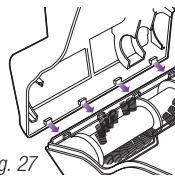

Fig. 27
- 3 To reassemble, insert the tabs on the front edge of the bottom cover into the matching holes in the top half and tilt it back down until it clicks into place. (Fig. 27)